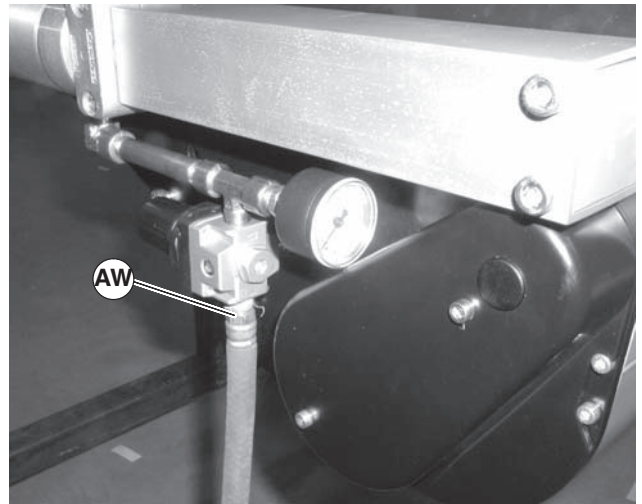

Figure 88
1. Remove air supply and remove hose (Figure 88, item AW) from center drive.